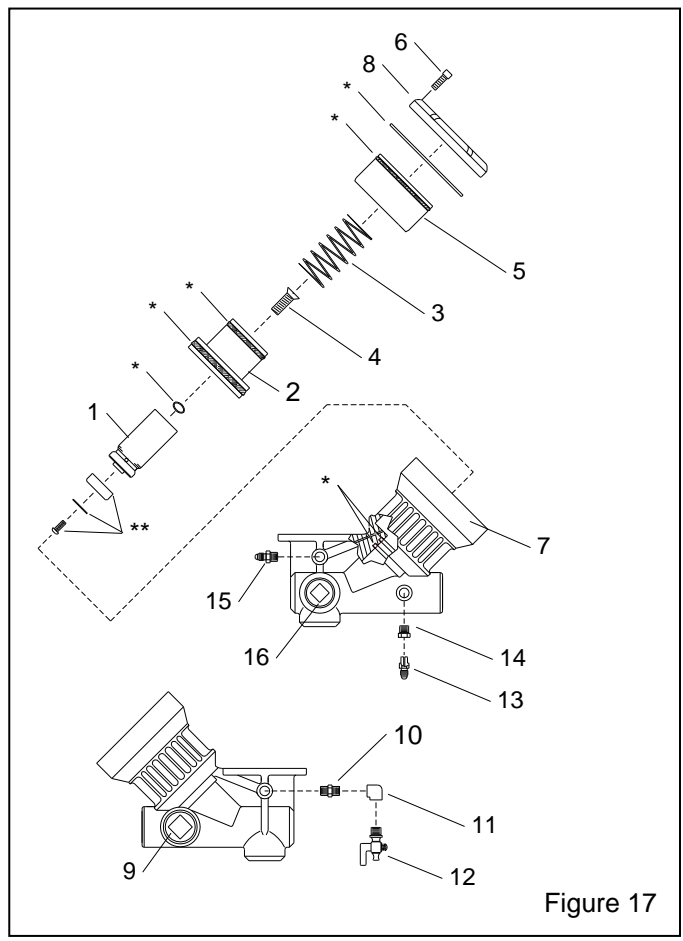

Figure 17
**8.6 Millennium Valve, Inlet Segment, Figure 17**